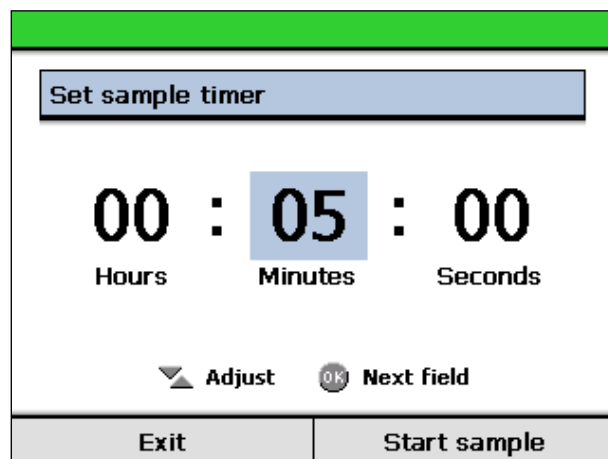

Figure 40 Timed Sample Setup
- 3] From the main menu select 'Timed sample' then select 'Start new sample'. The timed sample setup screen will be shown (Figure 40)